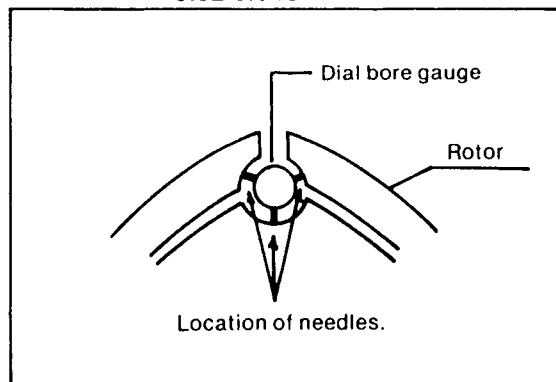

Figure 23
(2) Using an inside micrometer, measure the inside of the corner seal groove as shown in Figure 23.
(3) Calculation of ΔC (the clearance between the corner seal and the groove).